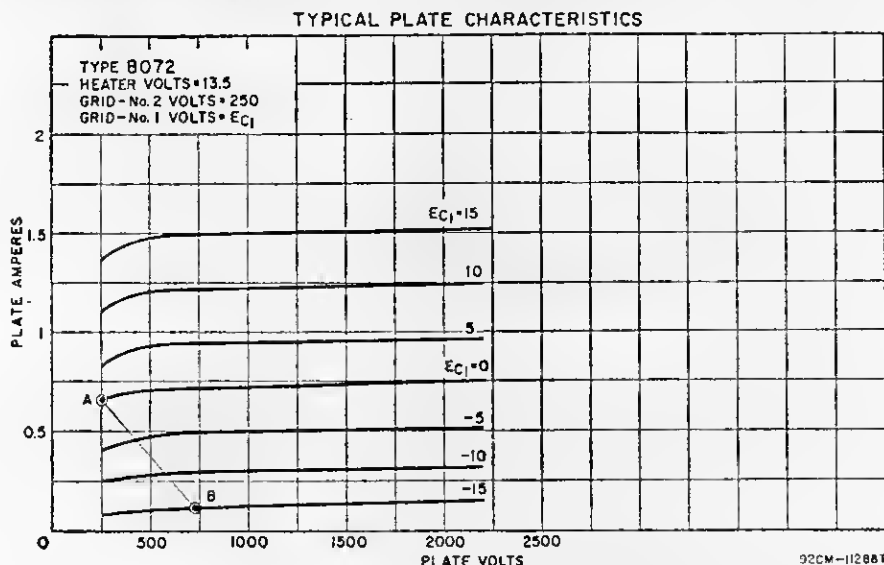
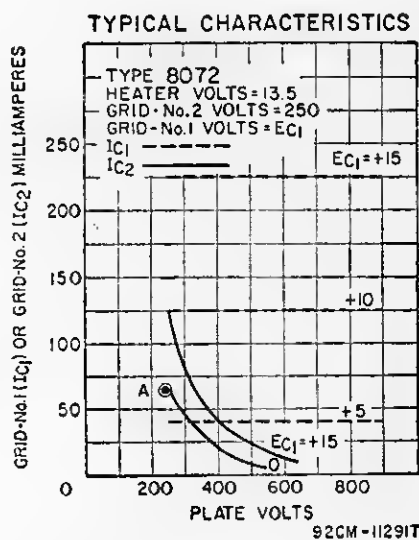

Fig. 46
Fig. 47
The operating conditions for a class AB1 linear rf amplifier used in single-sideband service can be estimated from the load line plotted on a set of plate characteristics. The typical plate and grid-No.2 characteristic curves shown in Figs. 46 and 47 are used in the following
(3) Select a value of zero-signal plate current ( $I_{b0}$ ) between  $1/6$  and  $1/10$  of  $I_{bmax}$  found in (2). Locate  $I_{b0}$  at selected  $E_b$  and construct a load line to the point found in (2). In general, the
(5) Determine the grid-No.1 bias ( $E_{c1}$ ) from graph at the point of zero signal found in (3).
(6) DC plate current at peak of envelope ( $I_{b0}$ ) is approximately equal to  $I_{bmax}/3$ .
(7) Average dc plate current ( $I_b$ ) is equal to  $I_{b0}/1.4$ .
(8) Determine peak grid-No.2 current ( $I_{c2max}$ ) from Fig. 47 at conditions in (2).
(9) DC grid-No.2 current at peak of envelope ( $I_{c20}$ ) is approximately equal to  $I_{c2max}/4$ .
(10) Average grid-No.2 current ( $I_{c2}$ ) is approximately equal to  $I_{c20}/1.4$ .
(11) Average grid-No.2 dissipation ( $P_{c2}$ ) is approximately equal to  $E_{c2} \times I_{c2}$ .
(12) Peak Envelope Power input ( $P_{Ine}$ ) is equal to  $E_b \times I_{b0}$ .
(13) Peak Envelope Power output (PEP) is equal to  $(I_{bmax}/4) (E_b - E_{bmin})$ .
(14) Average Plate Dissipation ( $P_p$ ) is equal to  $0.7 P_{Ine} - 0.5 \text{ PEP}$ .
(15) Average Power Output ( $P_o$ ) is equal to  $\text{PEP}/2$ .
(16) Effective rf load resistance ( $R_p$ ) is equal to  $2(E_b - E_{bmin})/I_{b0}$ .
(1) The plate voltage is selected to be 700 volts; grid-No.2 voltage, 250 volts.
(2) On Fig. 46 plot the maximum-signal point at knee of  $E_{c1} = 0$  curve (point A). Read  $I_{b\max} = 0.65$  ampere. Locate  $E_{b\min}$  at 250 volts.
(4) On Fig. 46 plot the minimum-signal point at  $E_b = 700$  volts and  $I_{b0} = 0.10$  ampere (point B).
(5) On Fig. 46 read  $E_{c1}$  at -15 volts at minimum-signal point B.
(6) Calculate:  $I_{b0} = I_{b\max}/3 = 0.650/3 = 0.22$  ampere.
(7) Calculate:  $I_b = I_{b0}/1.4 = 0.22/1.4 = 0.16$  ampere.
(8) On Fig. 47 locate point A at  $E_b = 250$  volts and  $E_{c1} > 0$  on grid-No.2 current curves. Read  $I_{c2\max} = 0.065$  ampere.
(9) Calculate:  $I_{c2e} = I_{c2\max}/4 = 0.065/4 = 0.016$  ampere.
(10) Calculate:  $I_{c2} = I_{c2e}/1.4 = 0.016/1.4 = 0.011$  ampere.
(11) Calculate:  $P_{c2} = E_{c2} \times I_{c2} = 250 \times 0.011 = 2.7$  watts. Verify that grid-No.2 dissipation is within rating.
(12) Calculate:  $P_{lne} = E_b I_{b0} = 700 \times 0.22 = 154$  watts.
(13) Calculate:  $PEP = (I_{b\max}/4) (E_b - E_{b\min}) = (0.650/4) (700 - 250) = 73$  watts.
(14) Calculate:  $P_p = 0.7 P_{lne} - 0.5 PEP = 0.7 (154) - 0.5 (73) = 71$  watts.
(15) Calculate:  $P_o = PEP/2 = 73/2 = 36.5$  watts.
(16) Calculate:  $R_p = 2 (E_b - E_{b\min})/I_{b\max} = 2(700-250)/0.65 = 1384$  ohms.